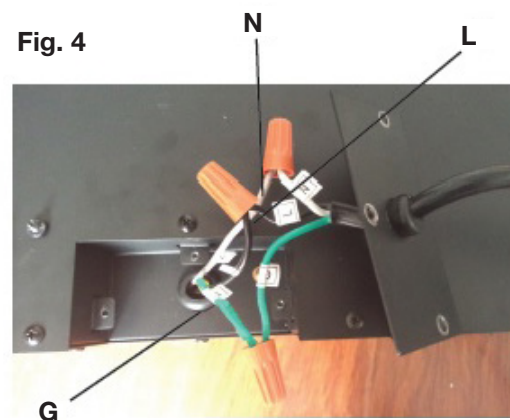

Fig. 4
- Using the wire connectors supplied in the hardware kit, connect the ground green wires (G), the common white wires (N) together, and the hot black wires (L) (**Fig. 4**).